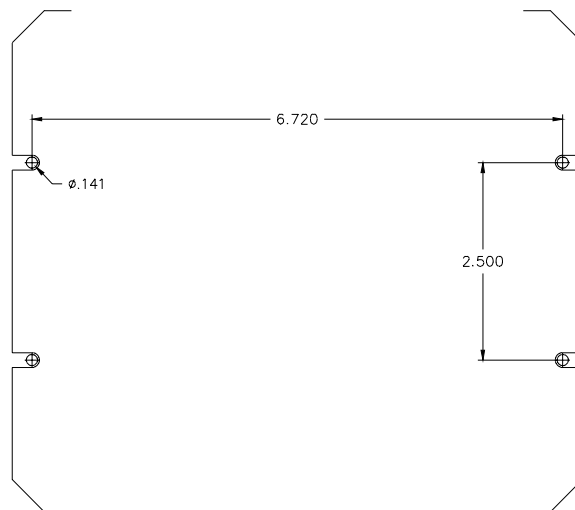

FIGURE 1
2. Mount the unit with the four supplied #8 sheet metal screws. If possible, a metal surface should be chosen for best heat dissipation. The mounting hole pattern dimensions are shown in Figure 1. The power supply can be used as a template to mark the drill locations. Pre-drill this surface with a 9/64 drill and secure the unit.